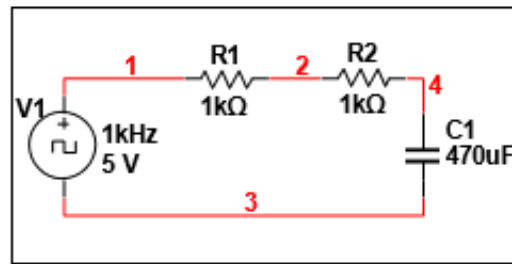

Figure 12.2: RC Circuit
- An RC circuit is shown in figure 12.2